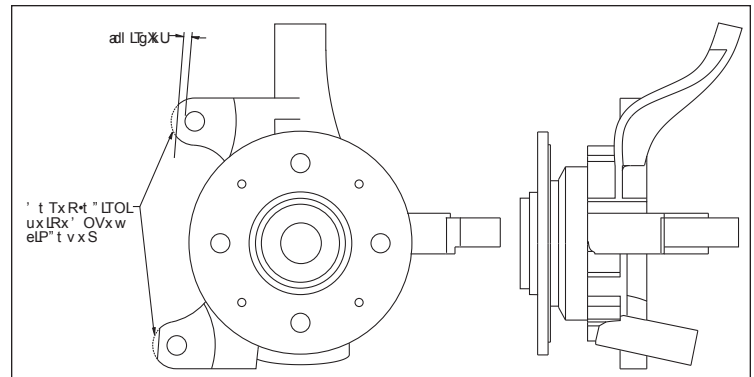

Figure 2. Spindle Modifications
- Before any tear-down or disassembly begins, modifications are required to the stock spindle. This includes removing some material from the stock spindle caliper mounting area that will interfere with the assembly of the Wilwood disc brake kit. It is recommended that these modifications be performed by a qualified machine shop. Please refer to the modification procedure and Figure 2, page 3.
- These modifications should be performed by a qualified machinist. Refer to Figure 2, right. Only one view of the spindle is shown, but the modifications need to be performed on both spindles.